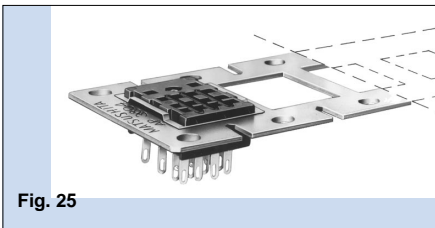

Fig. 25
- The socket should be inserted through the opening in the mounting panel so that the terminal wiring side is toward the back side. The mounting panel can be used for 10 units, but it can be cut for use with less than that number. (Fig. 25)